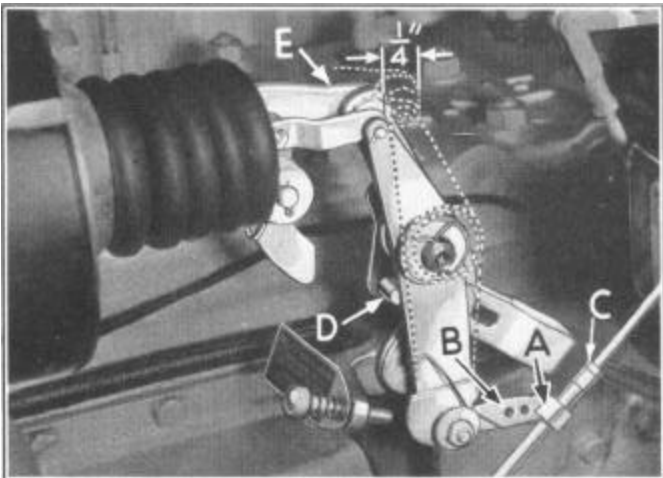

Figure 4
With guide block (A) (Figure 4) in the rear hole of cam lever (B), adjust valve lever cam threaded sleeve (C) to give maximum disengagement travel to the piston. With the engine running, clutch disengaged, and compensator pin (D) in its extreme rearward position, screw the threaded sleeve (C) toward dash until piston rod (E) just reaches its extreme forward position. Then screw threaded sleeve (C) away from dash until the piston moves rearward f. This gives the proper adjustment for the forward travel of the piston.